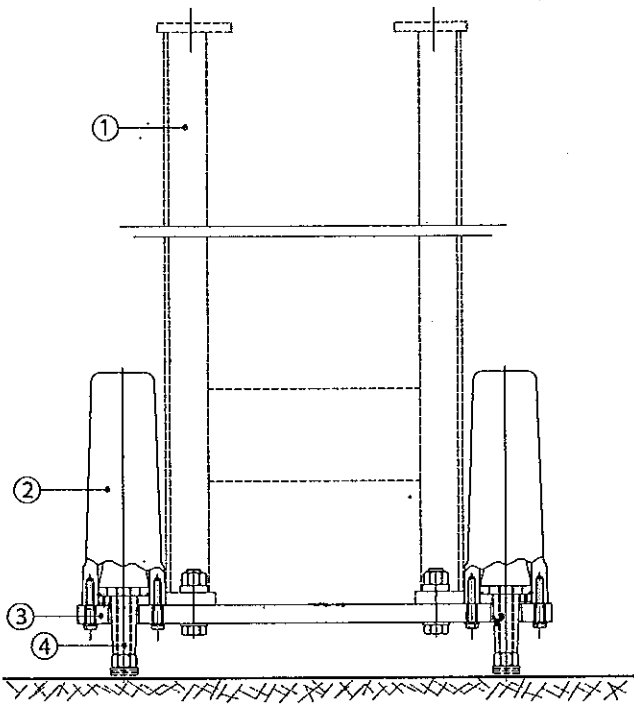

Fig. 1. Support column of HV circuit breaker with earthquake damping unit.
Fig. 1. illustrates the principle of a damping unit. The support frame (1) is mounted on the bottom plate (3) on which four damping cylinders (2) are assembled. The piston rods (4) are fixed to the foundation bolts. Between the piston rod and the cylinder there is a piston system working, which is absorbing friction energy during motion. This provides damping for the complete circuit breaker.